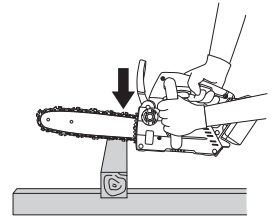

Fig. 24
- (1) Switch ON the power while keeping the saw slightly away from the wood to be cut. Start sawing only after the unit has reached full speed.
- (2) When sawing a slender piece of wood, press the base section of the guide bar against the wood and saw downward as shown in **Fig. 24**.